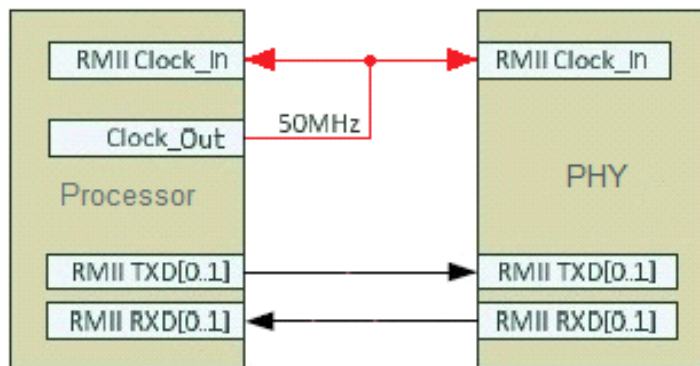

Figure 42. Workaround based on "external clock source" scheme
- Configure Vybrid to deliver a free-running 50 MHz clock via a pin not involved in the RMIi functionality. Bring this clock externally back to the processor pin used as an RMIi reference clock input (see Figure 42). Because this clock is not related to the RMIi functionality, the processor's MAC (Ethernet) block treats it the same way as if it came from an external source, that is, like in Section 12.3.0.1, “External RMIi reference clock.”